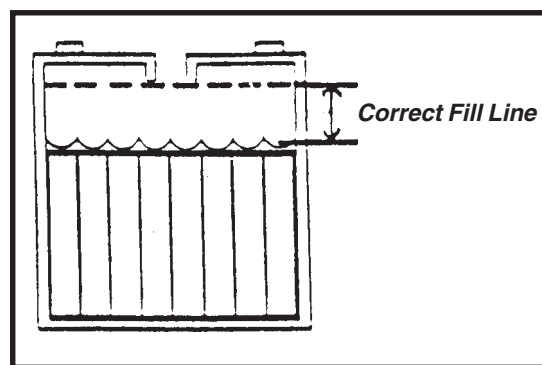

Figure 10
1. Keep the electrolyte at the correct level. The correct level is between 1/4" below the bottom of the tube in each cell and above the tops of the plates. Check the level of the electrolyte each time you charge the batteries. See figure 10.